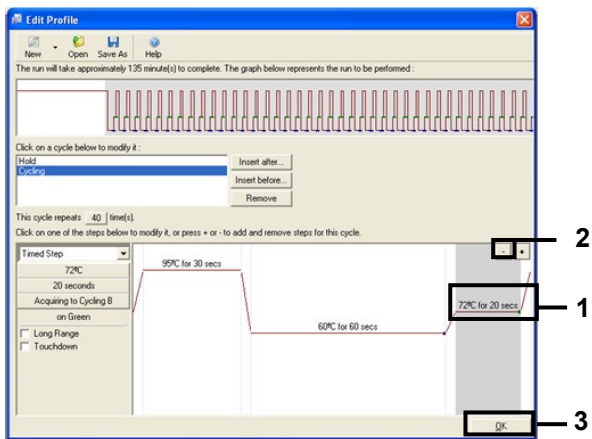

Figure 9. Removal of the extension step. (1 = Third step; 2 = "Delete"; 3 = "OK")
- Highlight the third step and delete and click - to delete. Click **OK** (Figure 9).